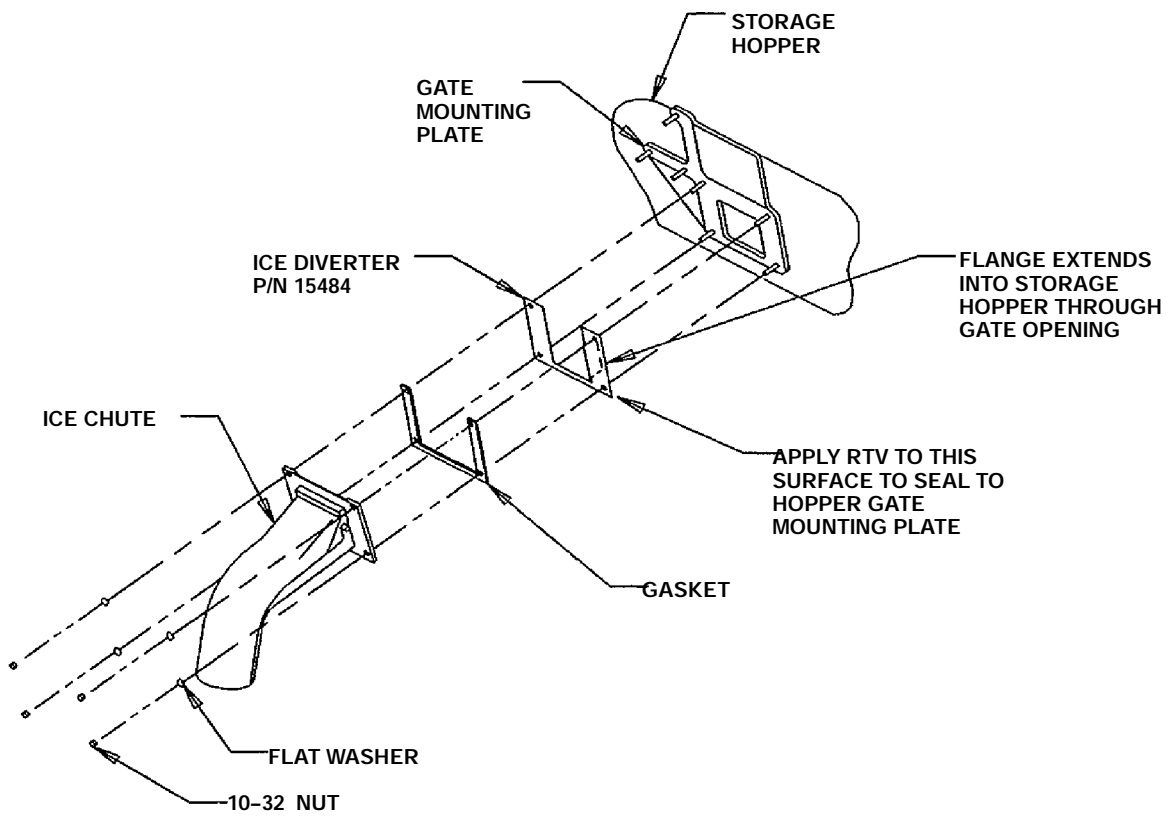

FIGURE 4.
- Refer to Figure 4 for the following: